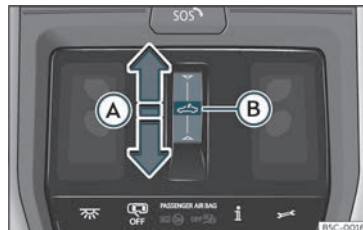

Fig. 92 On the interior roof lining: sunroof button.
• Automatic movement: slide your finger back over the functional area ☞ >>> Fig. 92 Ⓐ.
>>> Fig. 92 (A) and keep pressed until the sunroof is fully closed.